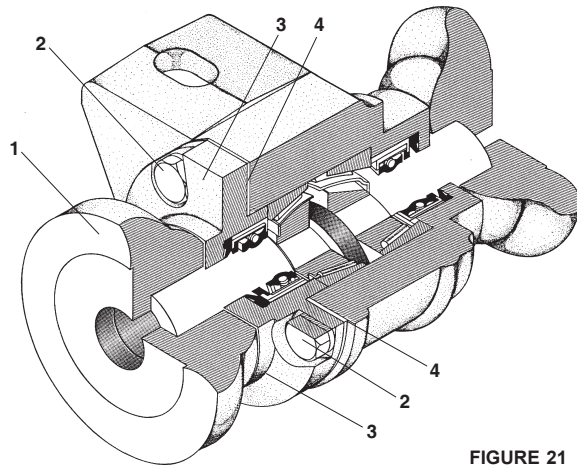

FIGURE 21
- Remove the washer item 1 in Figure 21.
- Loosen the bolts item 2 and take off the cover item 3.
- Remove 1 or 2 joints item 4, from the bearing cover.